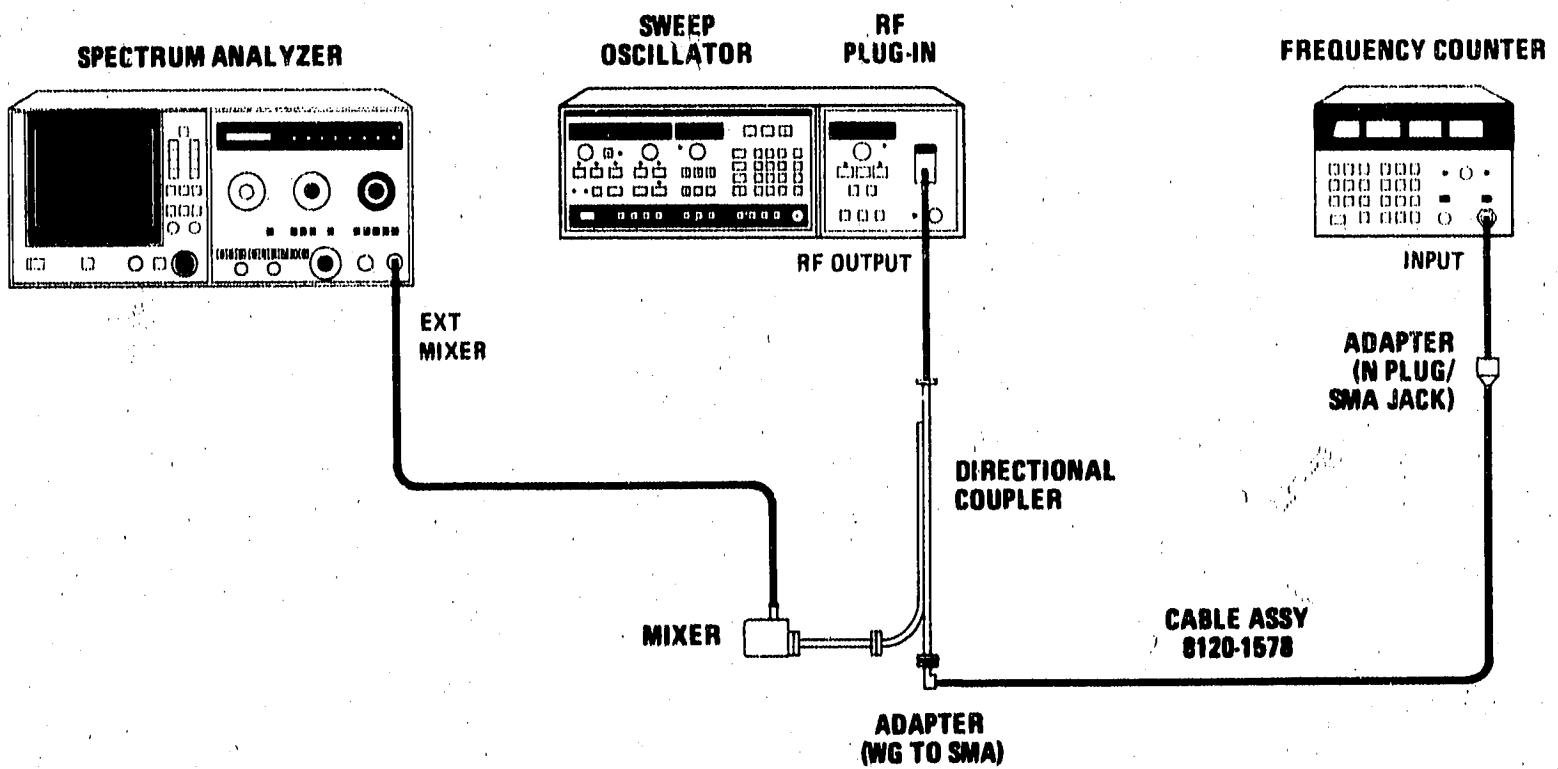

Figure 4-1. Tuning Accuracy Test Setup
4. Connect equipment as shown in Configuration A of Figure 4-1. Comb generator is connected to INPUT 50Ω connector of spectrum analyzer.
15. Disconnect comb generator from spectrum analyzer input. Connect sweep oscillator and frequency counter as shown in Configuration A of Figure 4-1.
\*\*Use HP 8350A/83570A with appropriate adapters in place of 8620C/86290A, Configuration A of Figure 4-1.
- 17. Connect equipment as shown in Configuration B of Figure 4-1.